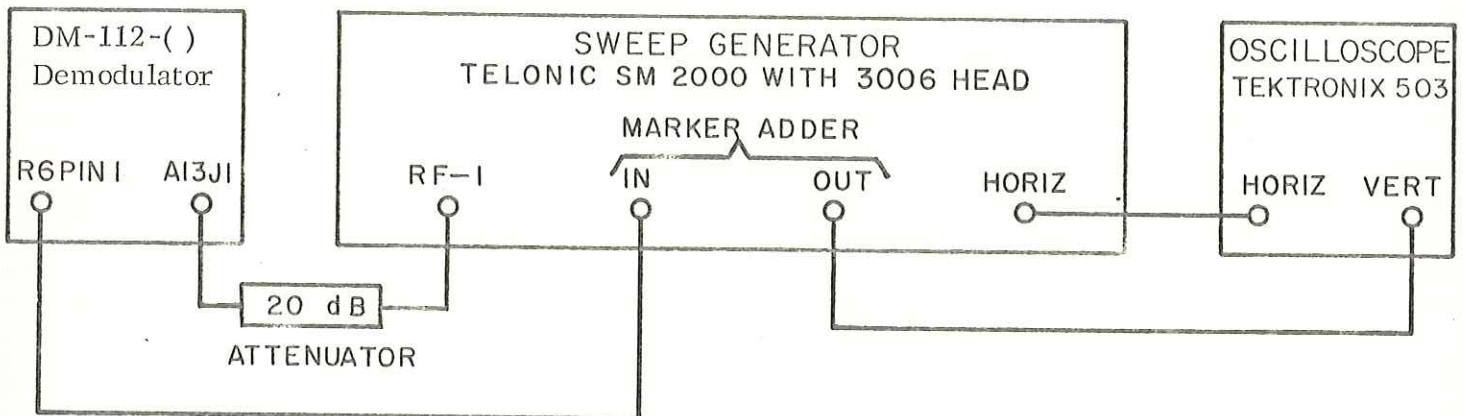

Figure 4-17. Test Setup, 21.4 MHz FM Limiter/Discriminator Alignment (A13A2)
- (1) Connect the equipment as shown in Figure 4-17. Resistor R6 pin 1 refers to the front panel VIDEO GAIN potentiometer.